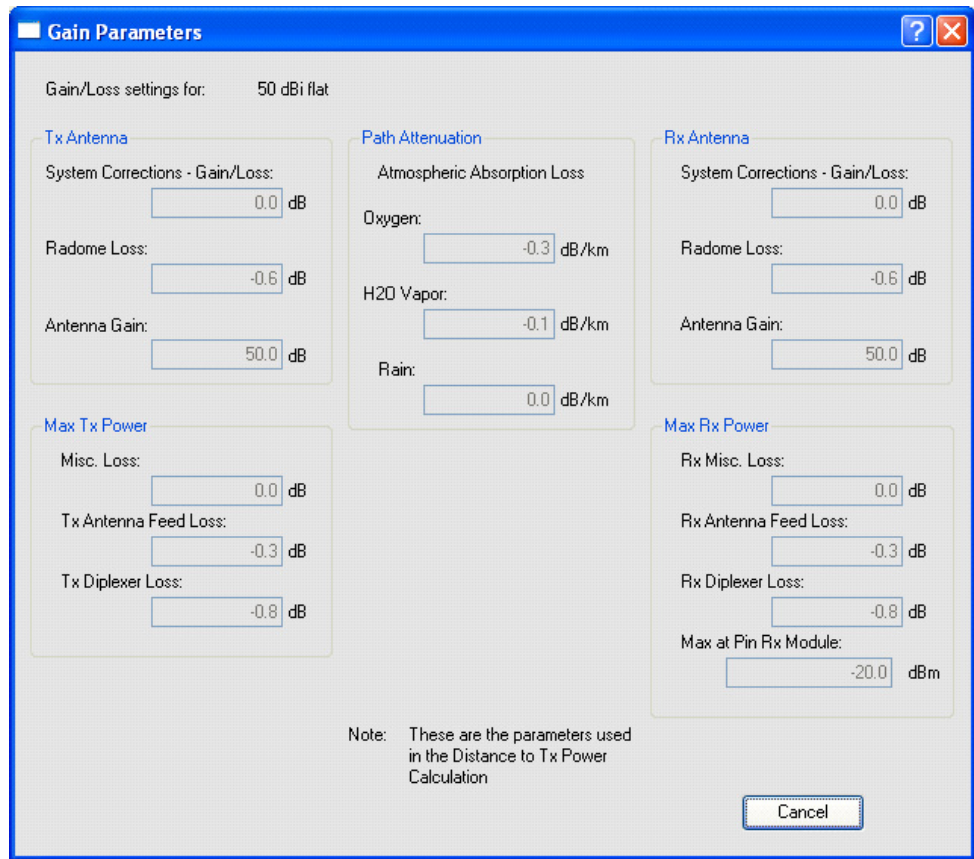

Figure E-10 WiFiber Installer Console - Tx Power Calculator parameters.
- **View Antenna Parameters** button - Displays antenna parameters (Figure E-10) used to calculate Tx Pout value. Click **Cancel** button to close screen and return to TxPower Calculation screen.